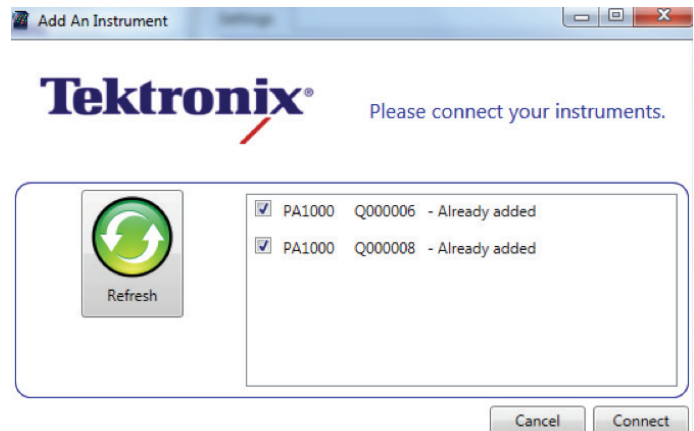

Figure 19. Example of two PA1000s Connected via PWRVIEW.
- Open PWRVIEW and click on “ADD” button and then click on connect as shown in Figure 19. This time, select two instruments.